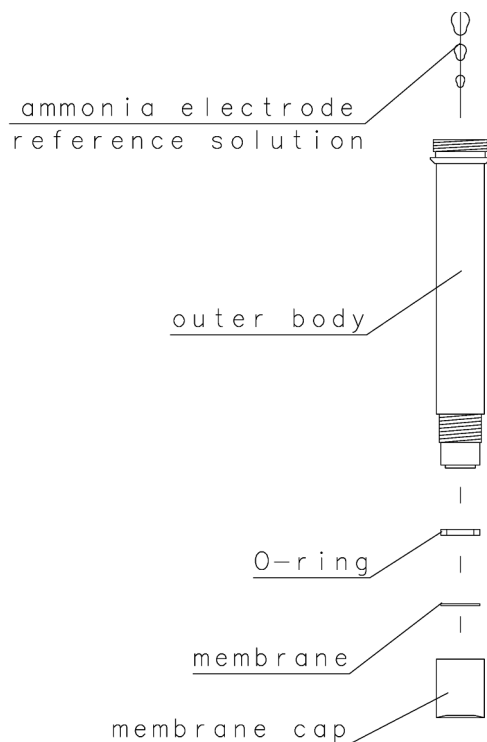

Figure 1 I9121 Ammonia Combination ISE outer body assembly
- 3** Remove the membrane cap off from the outer body (see Figure 1).